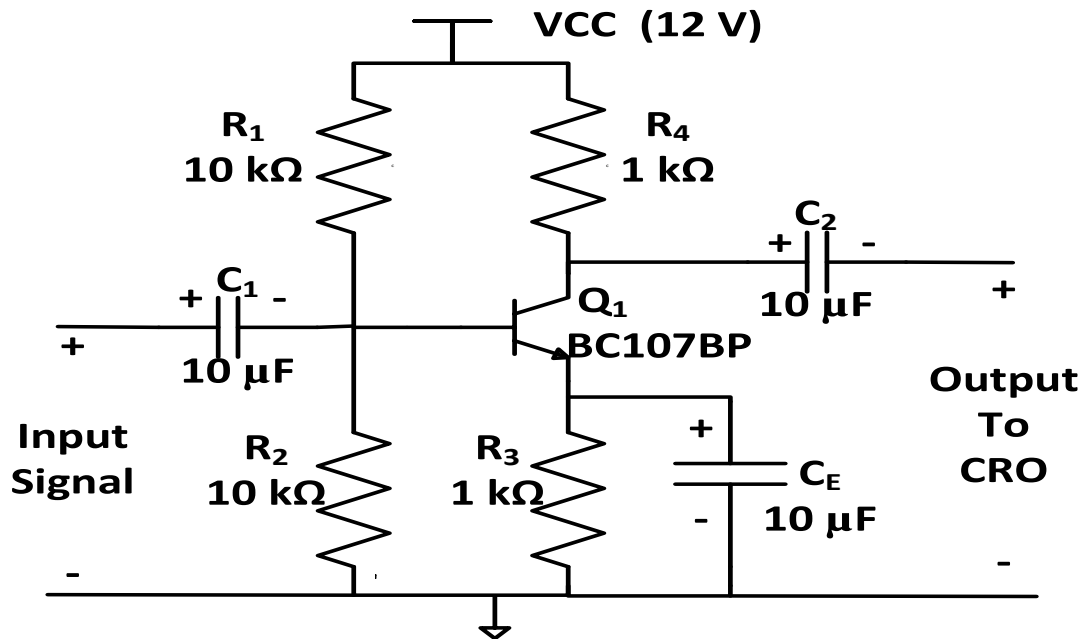

Figure 1.2 Common emitter amplifier circuit diagram
1.1 Simulate the common emitter amplifier as shown in figure 1.2 using MULTISIM. Draw and analyze the gain versus frequency graph for CE amplifiers.